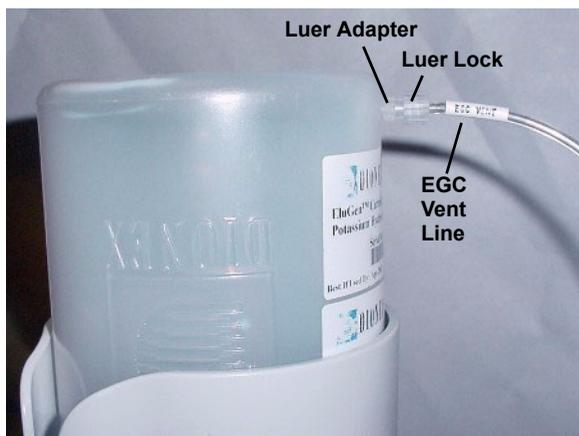

Figure 5-29. EGC Vent Line and Luer Fitting
4. Remove the **EGC VENT** line (see Figure 5-29) from the EGC by unscrewing the luer lock from the luer adapter.